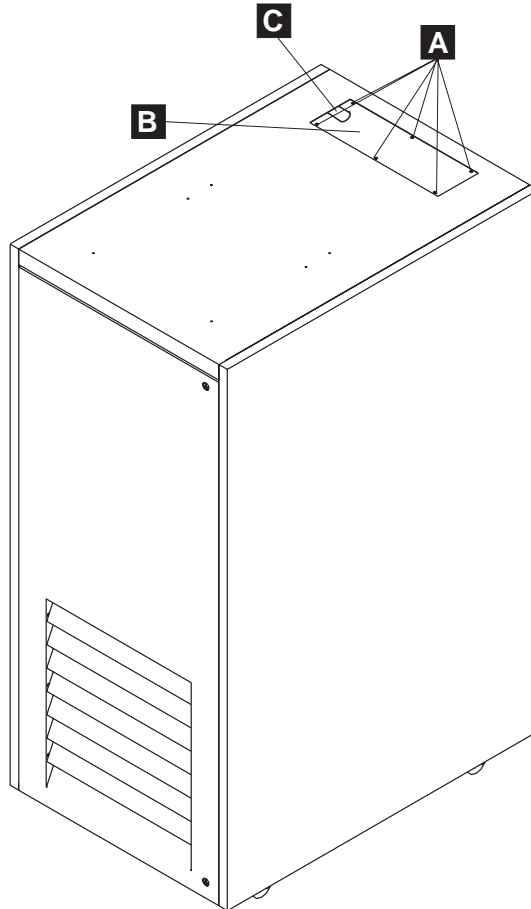

Figure 6-4. Removing of the Top Cover
1. On the top of the 29U rack, loose and remove the six screws **A** (see Figure 6-4).
4. Reinstall the top cover **B** (see Figure 6-4 on page 6-3). Be sure that the signal and power display cables are correctly routed in the top aperture **C**. Secure the top cover with the screws **A** previously removed.